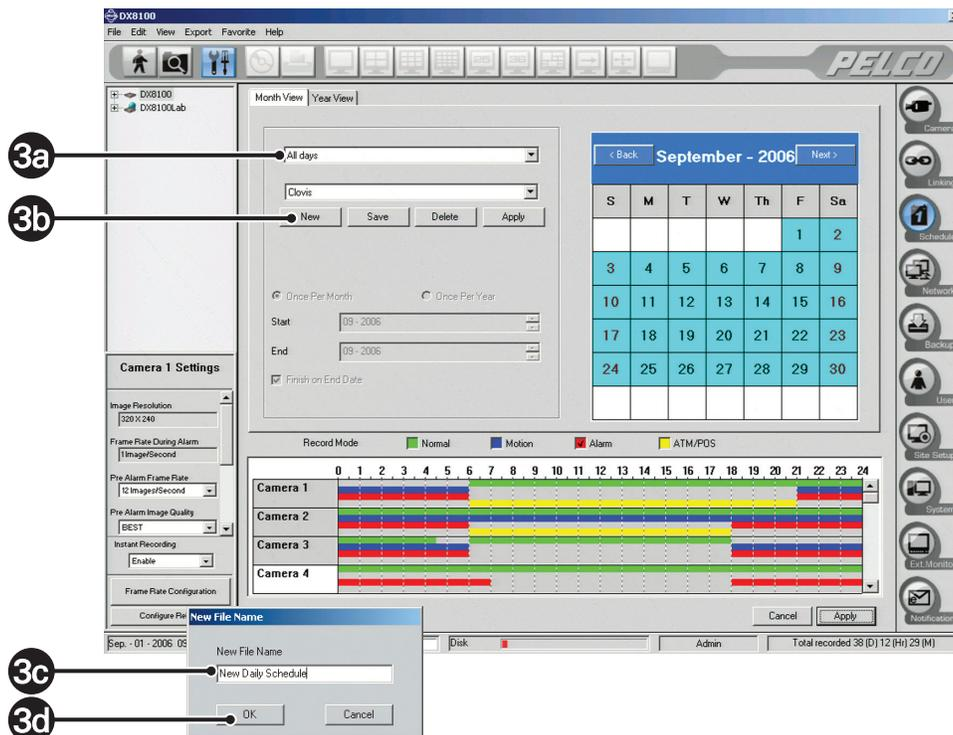
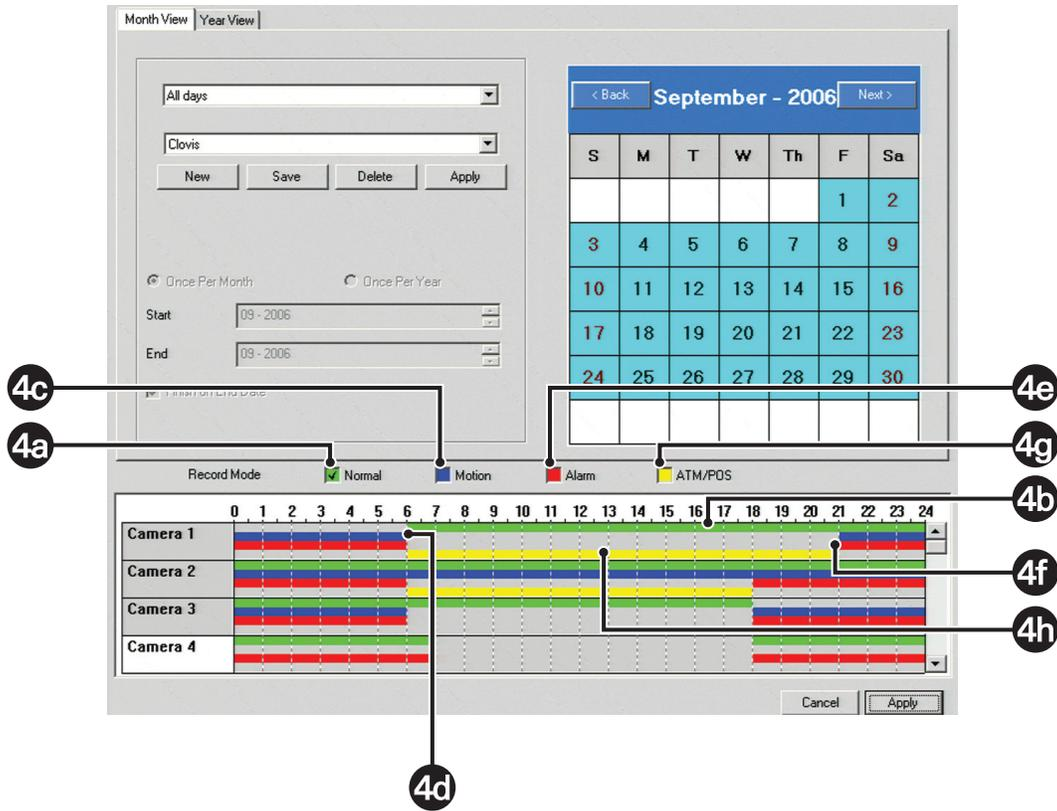

Figure 4. Schedule Setup Page
Figure 5. Camera 1 Schedule Setup
3. Create and save a schedule profile for Camera 1 and Camera 4 (refer to Figure 4 and Figure 5).